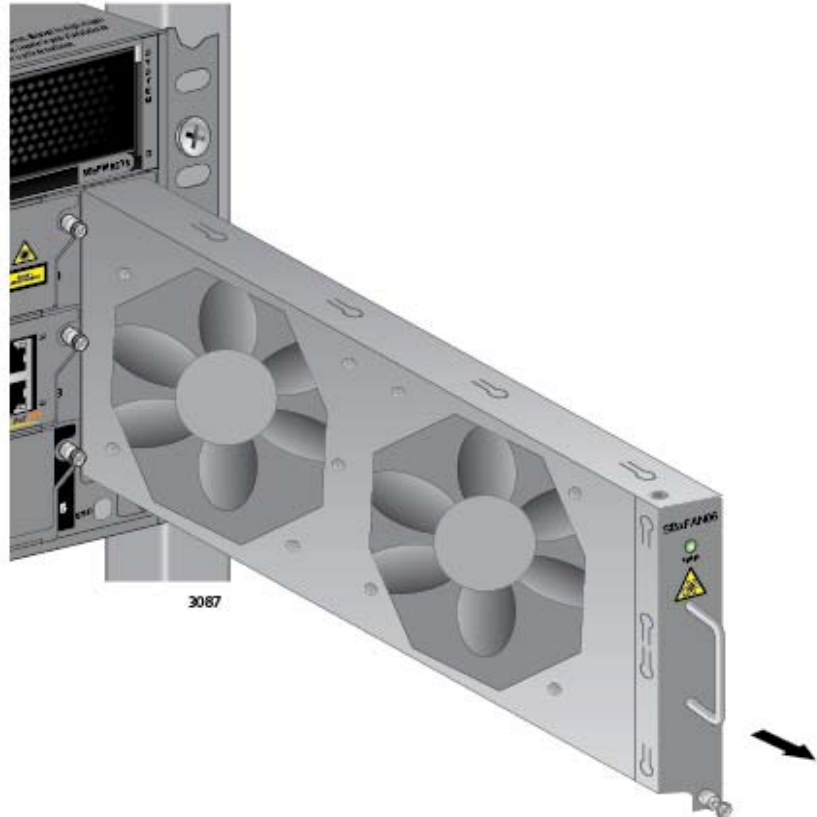

Figure 193. Removing the AT-SBxFAN06 Fan Module from the Chassis
9. After the fans have stopped, slide the module from the chassis. Refer to Figure 193 on page 313.